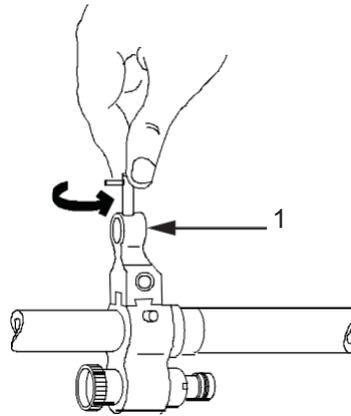

Figure 25. Lower Impact Group Sight Post.
14. To lower the impact group, screw the front sight post (Figure 25, Item 1) up counterclockwise (CCW).